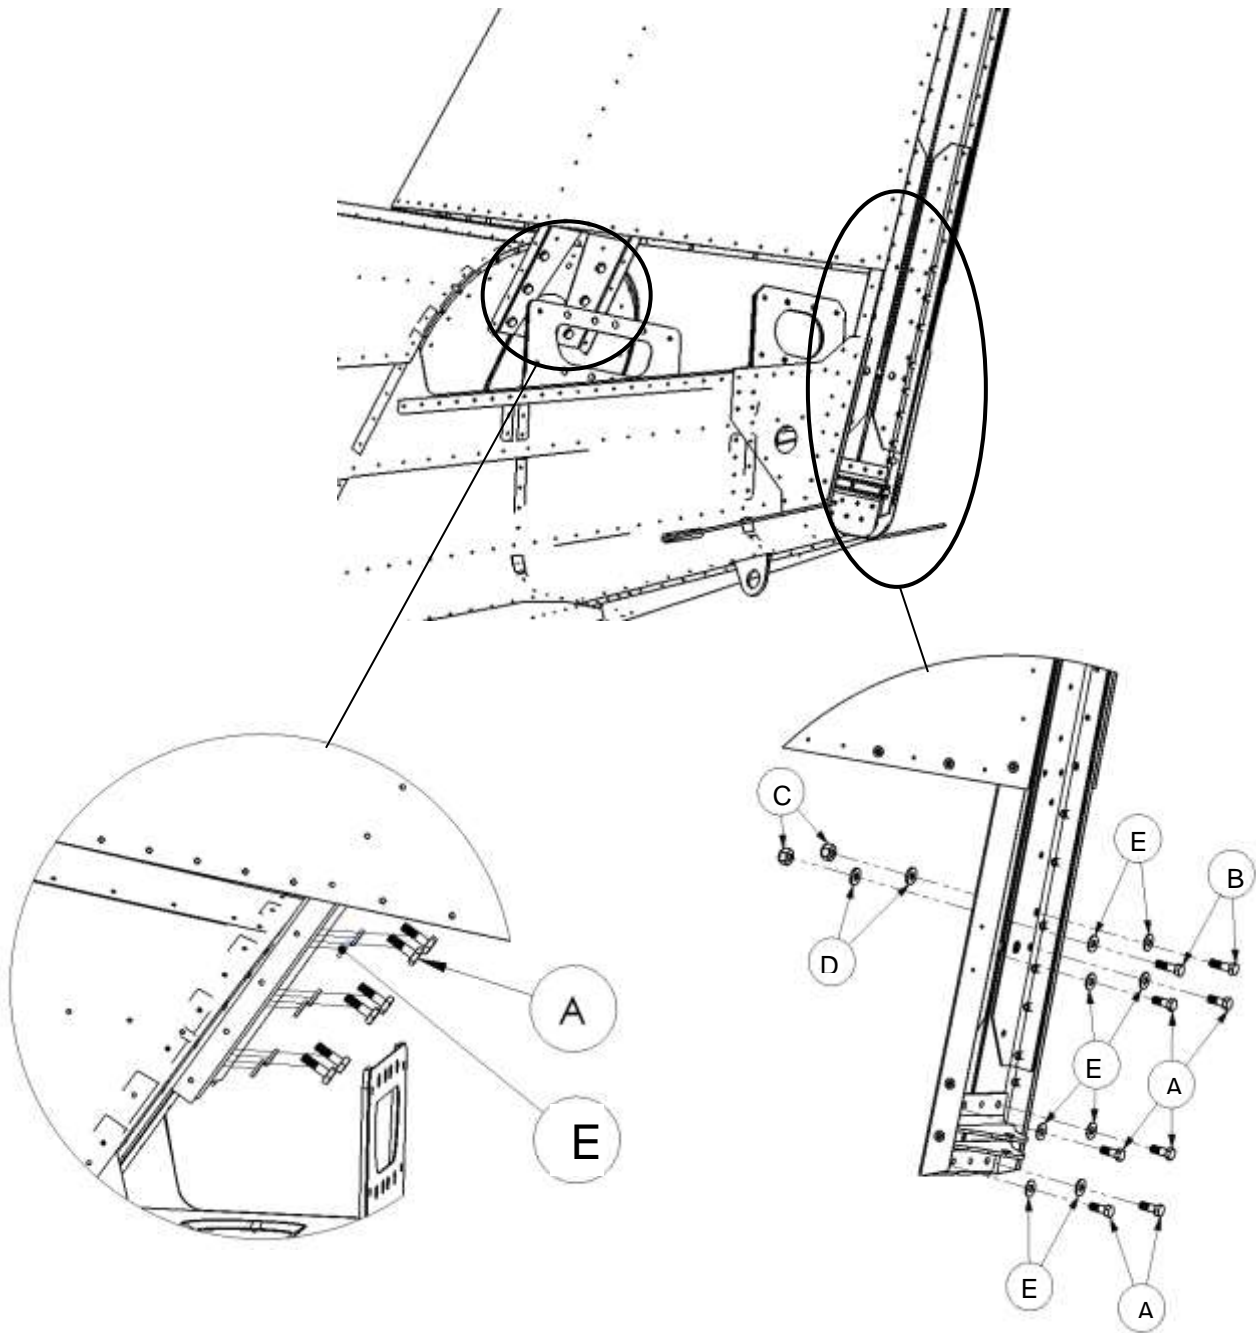

Figure 37: Vertical stabilizer to fuselage connection.
- Observe the correct placement of washers (refer to Figure 37).